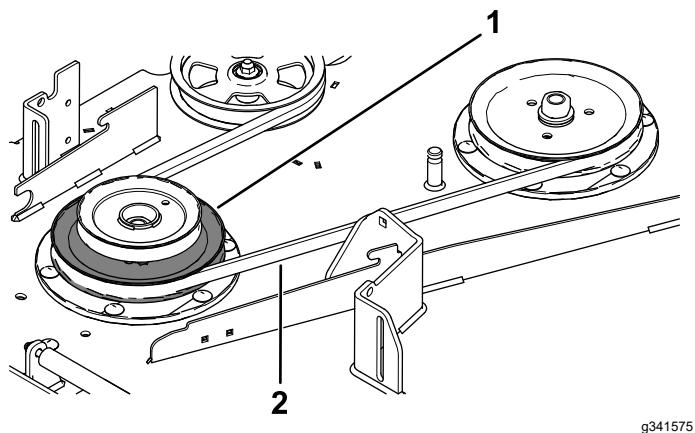

Figure 23
11. Install the mower belt around the lower pulley of the double pulley (Figure 23).